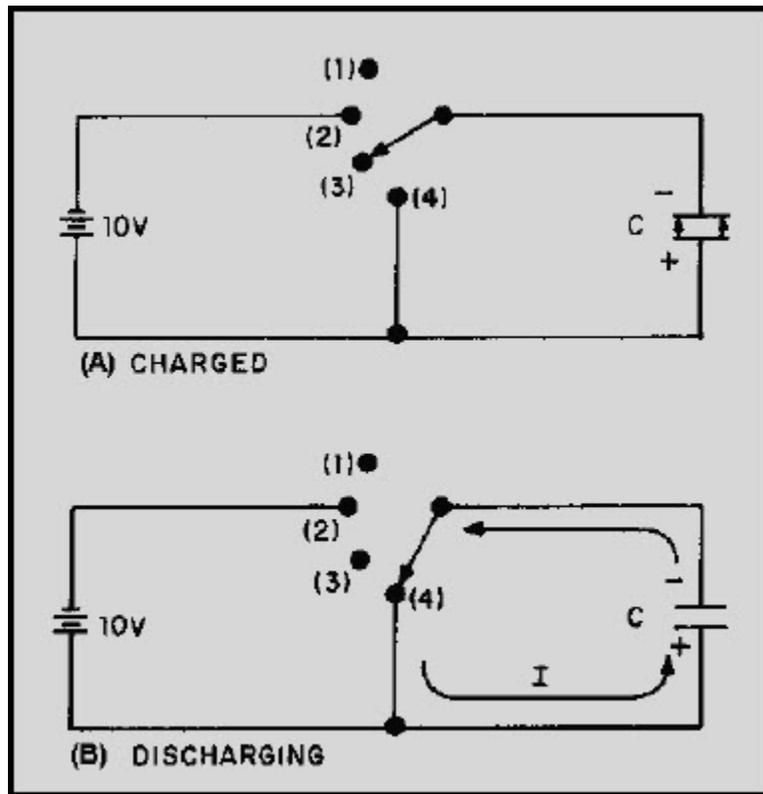

Figure 3-8 Discharging a capacitor
If the switch is now opened as shown in figure 3-8(A), the electrons on the upper plate are isolated. The electrons on the top plate are attracted to the charged bottom plate. Because the dielectric is an insulator, the electrons cannot cross the dielectric to the bottom plate. The charges on both plates will be effectively trapped by the electrostatic field and the capacitor will remain charged indefinitely. You should note at this point that the insulating dielectric material in a practical capacitor is not perfect and small leakage current will flow through the dielectric. This current will eventually dissipate the charge. However, a high quality capacitor may hold its charge for a month or more.
To DISCHARGE a capacitor, the charges on the two plates must be neutralized. This is accomplished by providing a conducting path between the two plates as shown in figure 3-8(B). With the switch in position (4) the excess electrons on the negative plate can flow to the positive plate and neutralize its charge. When the capacitor is discharged, the distorted orbits of the electrons in the dielectric return to their normal positions and the stored energy is returned to the circuit. It is important for you to note that a capacitor does not consume power. The energy the capacitor draws from the source is recovered when the capacitor is discharged.